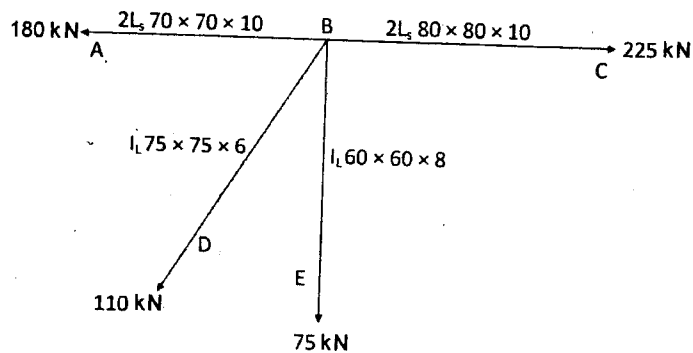

Fig. 2b
- (b) Design a joint B of a roof truss as shown in Fig. 2b. The members are connected with 16 mm diameter bolts of grade 4.6 to the gusset plate 120 mm thick.